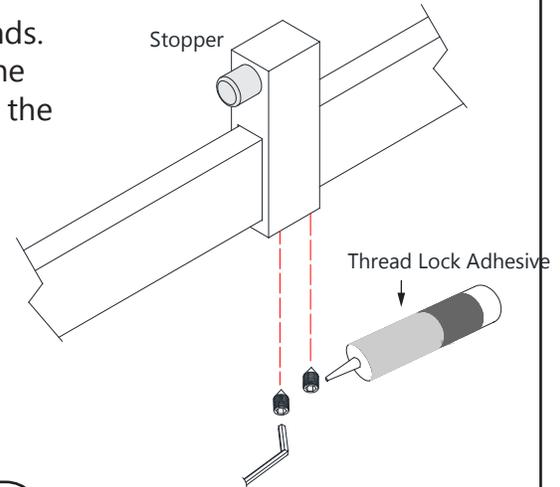

Fig 31a
31. Position the **Stoppers (#05)**, remove the set screws from the **Stoppers (#05)** and apply **Thread Lock Adhesive (#20)** to the threads. Reinsert the set screws into the **Stoppers (#05)**. Correctly position the **Stoppers (#05)** and screw them tightly to the **Guide Rail (#04)** with the supplied Allen wrench. **(Fig 31a)**
NOTE: The **Stoppers (#05)** must be positioned correctly to prevent the handle from contacting the **Stationary Glass (#02)** and to stop the **Door Glass (#03)** in a position that allows the bumper strip to create a seal with the wall, but does not allow the door glass to bang into the wall during normal operation. **(Fig 31a and 31b)**